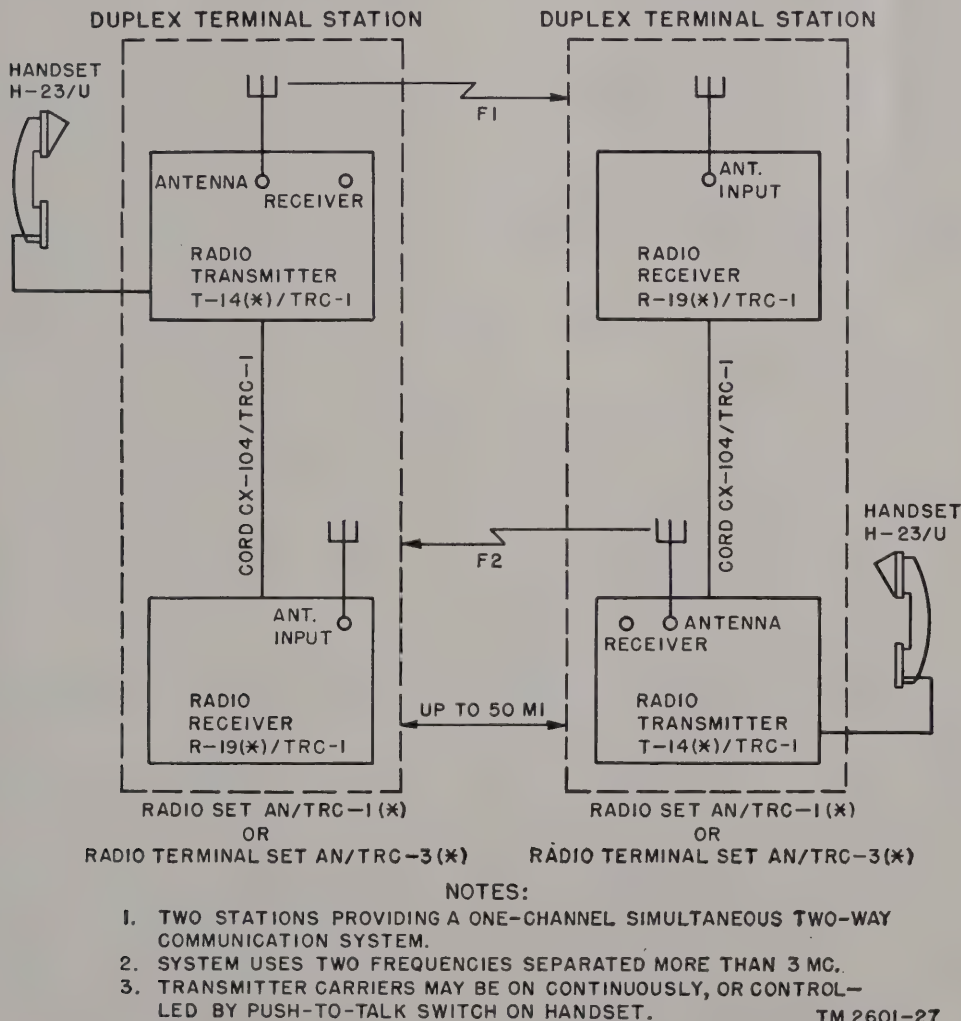

Figure 42. Use of Radio Sets AN/TRC-1(*) as an ordinary duplex single-channel field radio set.
b. **DUPLEX COMMUNICATION.** Figure 42 shows a block diagram using two Radio Sets AN/TRC-1(*) as ordinary field radio sets for single-channel duplex communication between two points. This arrangement uses two operating frequencies. It normally provides one voice channel in each direction. The communication can take place in both directions simultaneously enabling the operators to talk to each other as in normal conversation. By providing auxiliary telegraph terminal equipment or facsimile equipment at each station, it is possible to send facsimile or one to four telegraph channels both ways simultaneously in place of the voice channel. During voice communication between both stations, both transmitter carriers may be left on continuously or each transmitter carrier may be turned on when the push-to-talk switch of the handset is pressed.